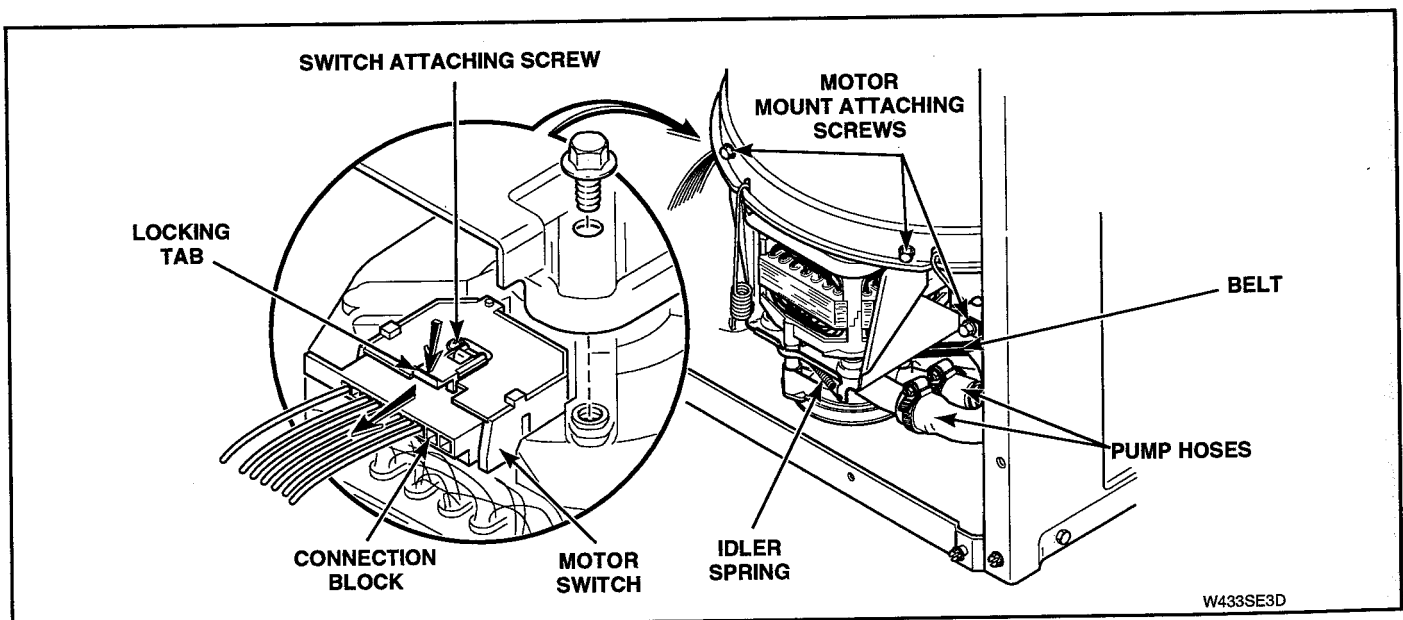

Figure 5-18
- g. Disconnect wire harness from motor switch by pressing down on locking tab on top of connection block and at the same time pull connection block away from motor switch. See Figure 5-18.
- h. Remove four screws holding motor and mounting bracket to lower outer tub flange and to weldment assembly. See Figure 5-18. Then lift complete assembly out of washer.
- d. Loosen hose clamps and remove hoses from pump assembly. See Figure 5-18.
- e. Unhook idler spring from idler lever. See Figure 5-18.
- f. Reach in and around right side of motor and run belt off right side of large drive pulley. See Figure 5-18.
- h. Remove four screws holding motor mounting bracket to lower flange of outer tub and to weldment assembly. See Figure 5-18. Then remove complete assembly out of washer.
- h. Remove four screws holding motor and mounting bracket to lower flange of outer tub and to weldment assembly. See Figure 5-18. Then remove complete assembly out of washer.
- Remove two screws holding motor shield to motor. See Figure 5-18.
- Disconnect wire harness from motor switch by pressing down on locking tab on top of connection block and at the same time pull connection block away from motor switch. See Figure 5-18.
- Remove screw holding motor switch to motor. See Figure 5-18. Then remove switch.